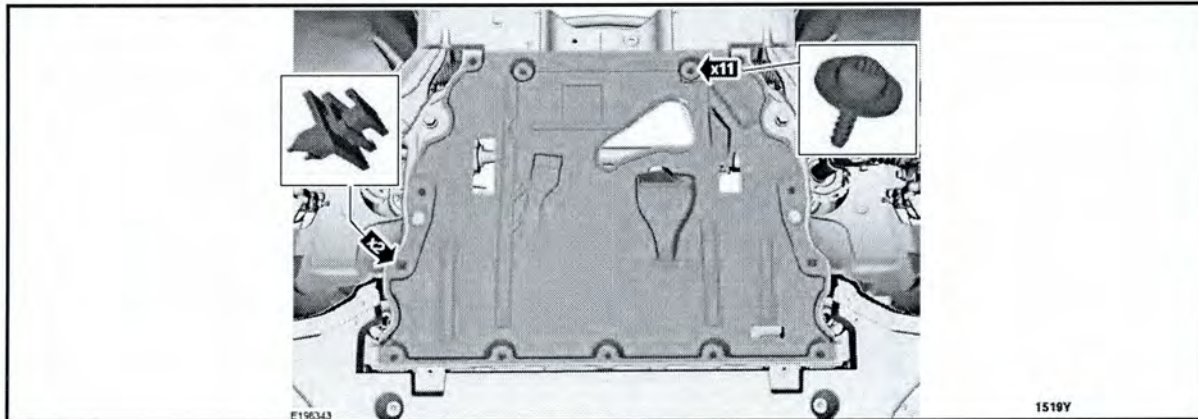

FIGURE 3
1. Remove the underbody shield. See Figure 3.
3. *Install the underbody shield. See Figure 3.*